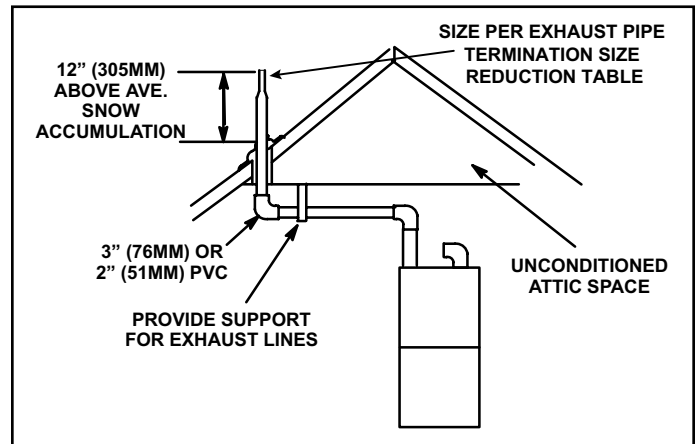

Figure 30. Non-Direct Vent Roof Termination Kit (15F75 or 44J41)
3. On roof terminations, the intake piping should terminate straight down using two 90° elbows (see Figure 30).